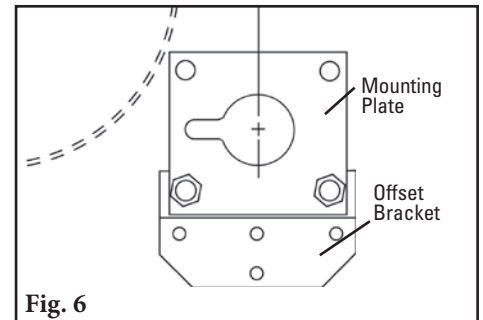

Fig. 6
10. **Install mounting plates.** On one side, slide mounting plate onto pole and with the key slot positioned horizontally and toward the pulley, bolt to the offset bracket, center in slots and tighten (Fig. 6). On opposite side repeat the process, but do not tighten.